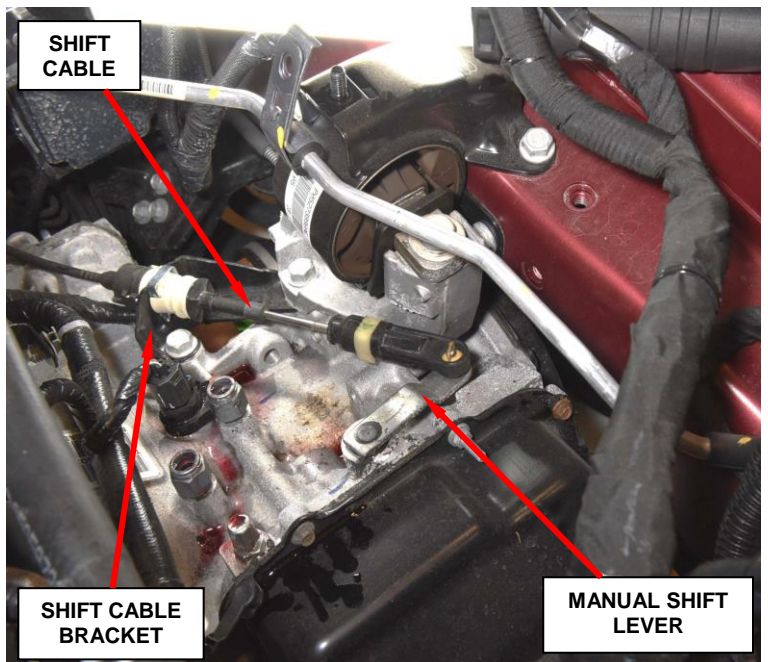

Figure 4 – Shift Cable
9. Disconnect the transaxle shift cable from the manual control lever (Figure 4).
10. Disconnect the shift cable from the cable anchor bracket (Figure 4).